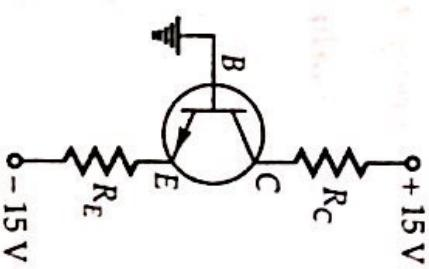

Figure 5.69
**Problem 5.10** Determine the  $I_C$  and  $V_{CE}$  for the voltage divider bias configuration of Fig. 5.69.
(i) From Fig. 5.69,